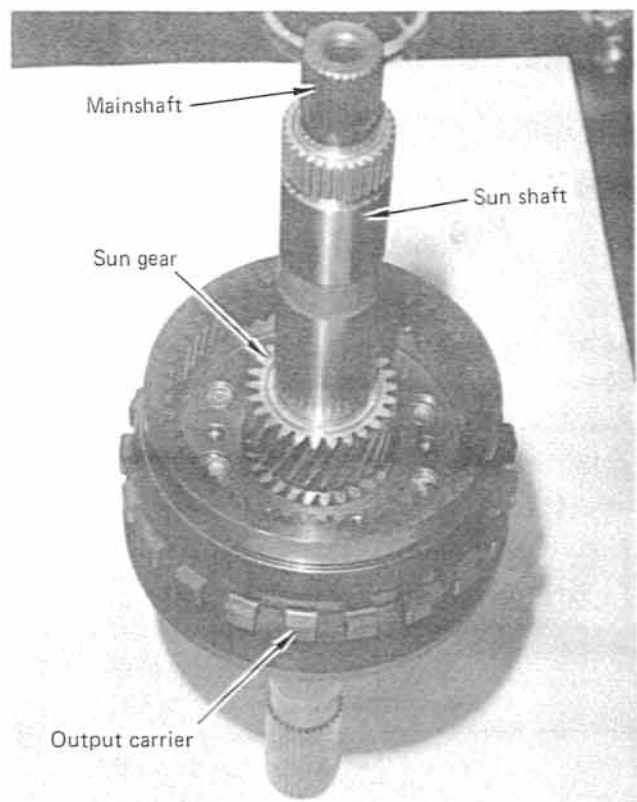

FIGURE 26
**STEP 2.** Remove the sun shaft and sun gear. (See Fig. 26)